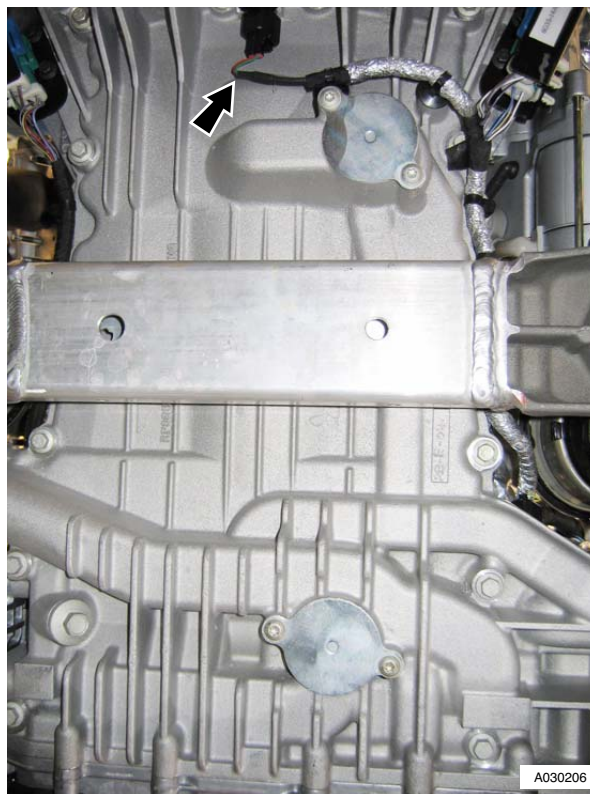

Figure 8
15. Disconnect multiplug from crankshaft timing sensor (see Figure 8).